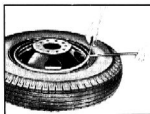
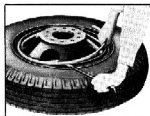

Fig. 66—Raising End of Clamp Ring
Fig. 67—Removing Tire Clamp Ring
3. Starting at the split in the clamp ring, raise its end out of the rim gutter using a screwdriver and the tire iron (fig. 66). Then remove the clamp ring by prying it out of the gutter with the tire iron, moving progressively around the rim (fig. 67).